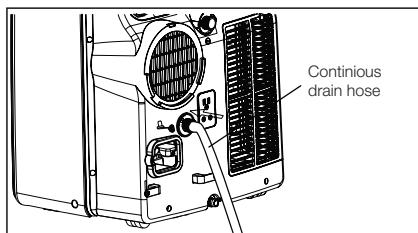

Fig. 26
2. During the Heating mode, you will need to connect a drain hose to the rear of unit as Fig.26